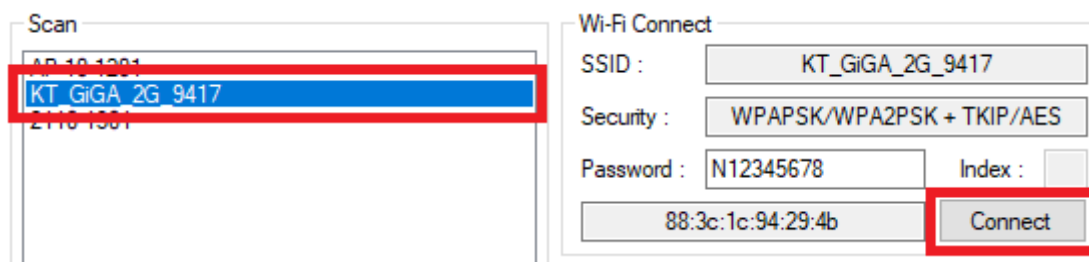

Figure 17. Station mode – select AP and connect
- When scanning is finished, select one AP in the list, see Figure 17.